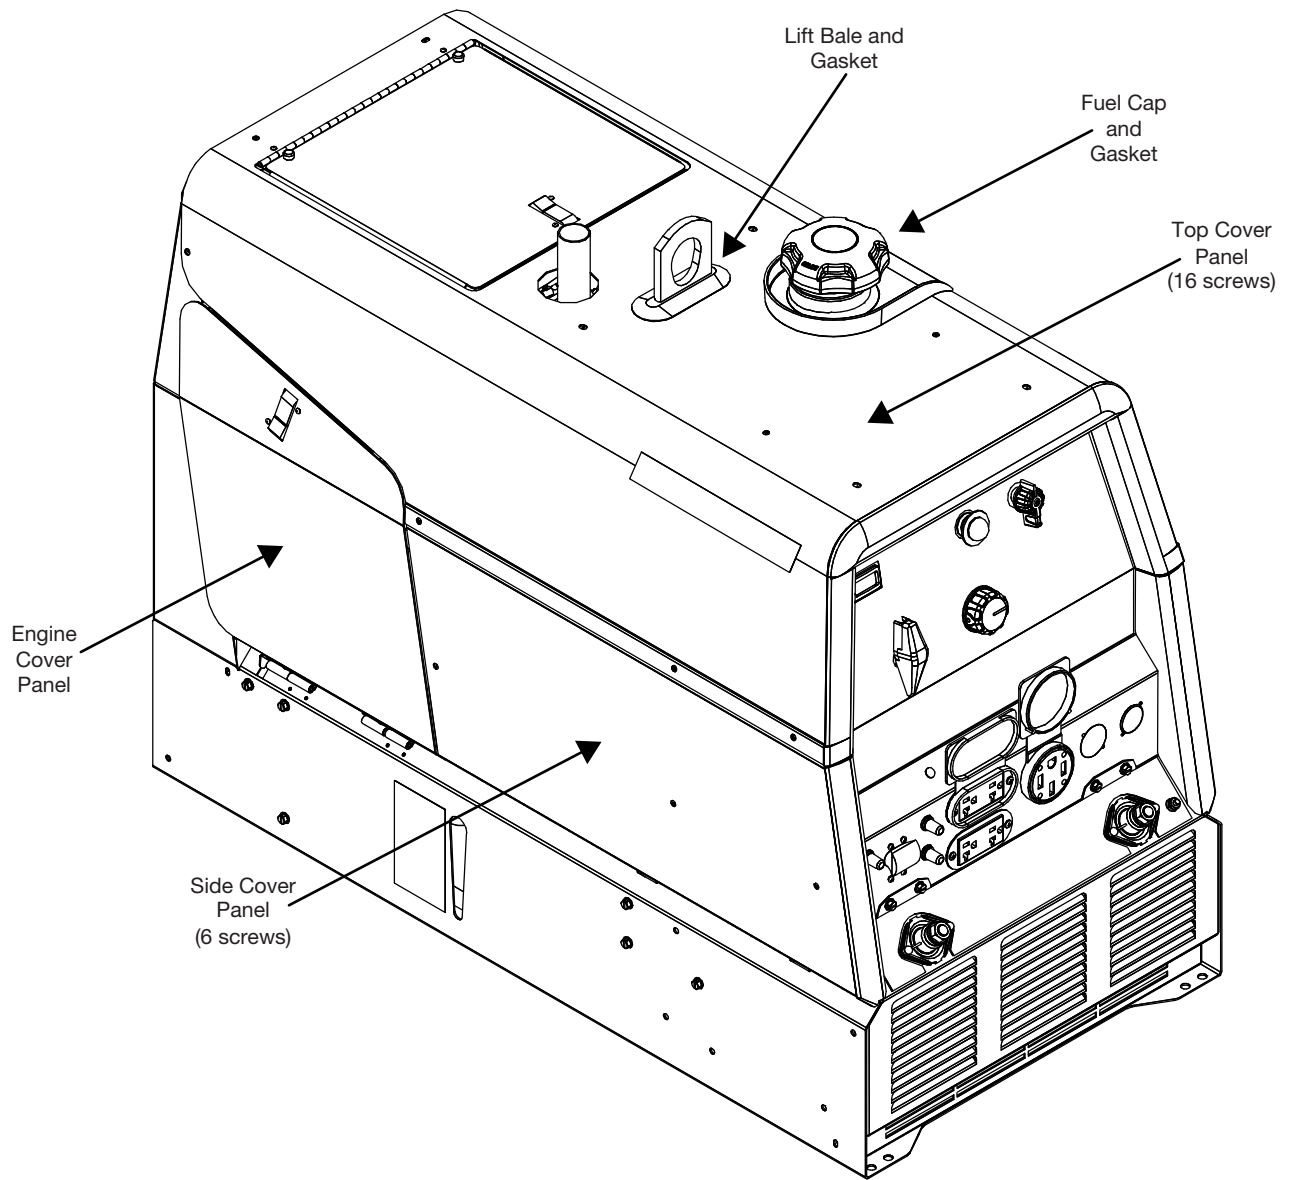

Figure F.1 – Case cover components
3. Remove the rubber gasket (cover seal) from the lift bail. See Figure F.1.
4. Remove the fuel cap and the rubber gasket for the fill tube. See Figure F.1.
5. Using a 3/8" nutdriver, remove the 16 screws securing the top cover panel and remove from the machine then **re-install the fuel cap**. See Figure F.1.
6. Using a 3/8" nutdriver, remove the 3 screws securing each side cover panel from both sides. See Figure F.1.